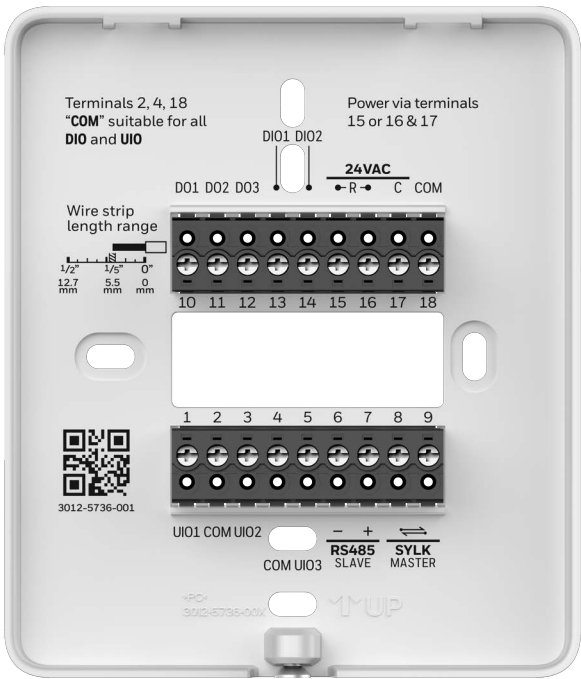

Fig. 10. Thermostat terminal assignments
1. Connect wires to the terminals. See Fig. 10 for terminal assignments and Table 2 for terminal descriptions.